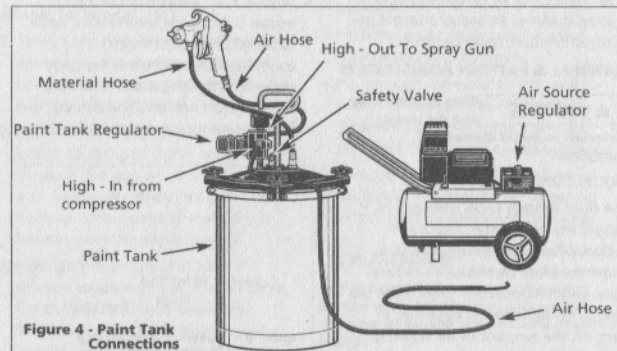

Figure 4 - Paint Tank Connections
The proper connections to make when using a pressurized paint tank are as illustrated in Figure 4. Refer to the instructions supplied with the paint tank for connections and usage. **DO NOT USE A PAINT TANK WITHOUT READING THOSE INSTRUCTIONS.**
- Pressure/siphon valve knob must be tightened clockwise (S direction) when using a pressurized paint tank connected as shown in Figure 4. This will prevent pressurized air from escaping out of the canister pressure valve port when the canister is not used.